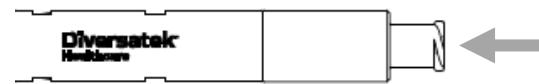

Figure 5: Piston Position “DOWN”
6. Fully deploy the needle until you feel the piston “click” into place. (NOTE: the luer-lock piston part of the handle is fully pushed into the outer part of the handle – Position DOWN) (Figure 5)